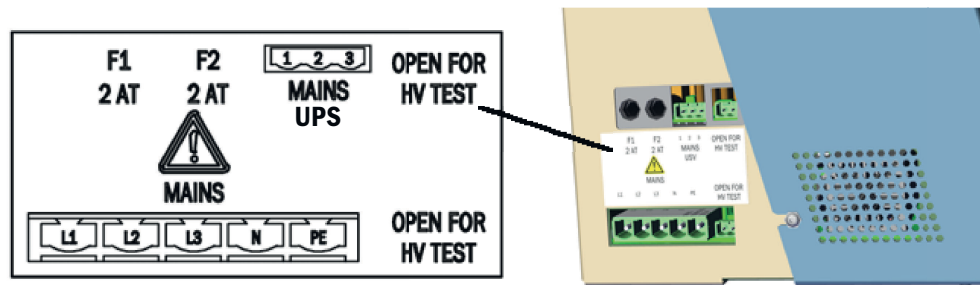

Figure 9: Power supply connections
1. To avoid erroneous measurements during a high-voltage test, the bridges described in Figure see figure 9, page 29 must be removed.